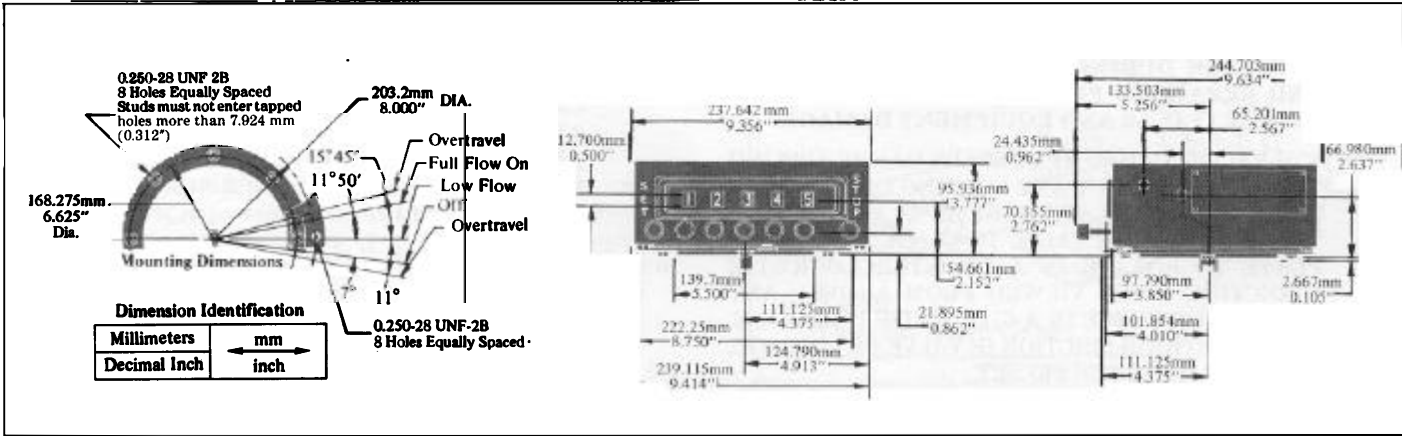

Figure 1. Exterior and Mounting Dimensions Series 7889 Preset.
2. **Mounting.** See Figure 1. There are eight tapped mounting holes for use with ¼-28 screws. The Preset is designed to mount directly on a Liquid Controls, Smith or Tokheim Flow Meter. Adapters are available for mounting on Brodie, Neptune, Rockwell or Keene (Bowser) meters.
3. **Valve and Switch Connections.** The Preset can be connected to a two-stage valve by customer-supplied, direct linkage or by an electrical switch with linkage. Either linkage connects to a rotating knockoff plate on the bottom of the Preset case with a ¼-28 screw (Figure 1). The rated first-stage valve load is 60 pounds.
4. **Outline Dimensions.** See Figure 1.
8. **Output (Knockoff).** Two-stage knockoff. Unit counts down from preset number. First stage knockoff point is set at the factory to customer's specification at 90, 80, 70, 60, 50, 40, 30, 20, 10, 9, 8, 7, 6, 5, 4, or 3. An optional three-finger rake provides first stage knockoff at a number between 900 through 100 in increments of 100. The setting can be internally changed by the customer in the field. Second (final stage) knockoff occurs when all wheels reach zero. See Figure 1 for angular travel of knockoff plate.
5. Verify that after the valve closes, the knockoff plate has rotated the correct distance of 15°, 45° plus 7° (Figure 1) and that there is some overtravel still left in the plate.